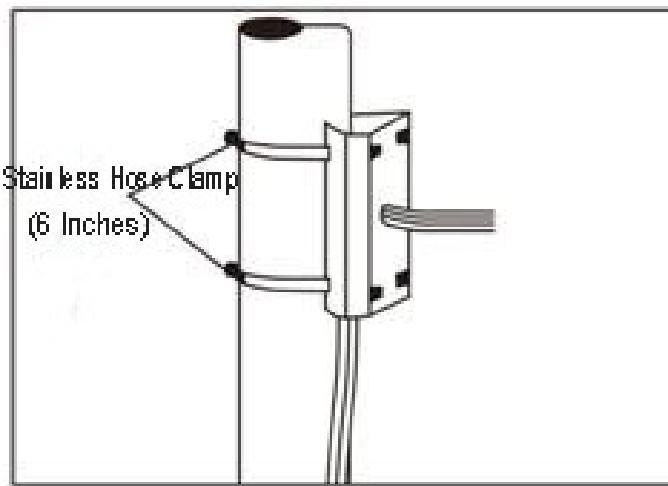

Fig 9
- As shown in fig 9, use the stainless hose clamps to fix the pole mounted attachment with all cable through it on the pole structure.